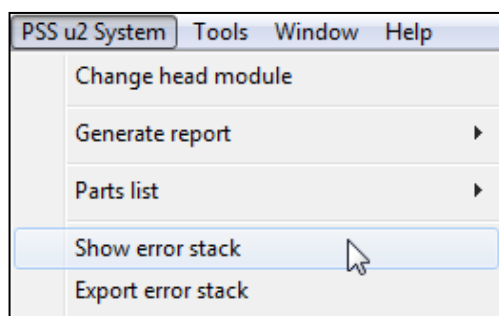

Figure 104: PASconfig – PSS u2 » Display of Error stack
- For a more detailed diagnosis, the 'PASconfig' tool can be started and the error stack of the relevant PSS u2 system can be displayed comprehensively there (see Figure 104 [63]). The error of the test pulse output 'T1' is indicated for both terminals '4' and '12':
- Display the information about the error in the error stack of the 'PASconfig' tool (see Figure 104 [63]):